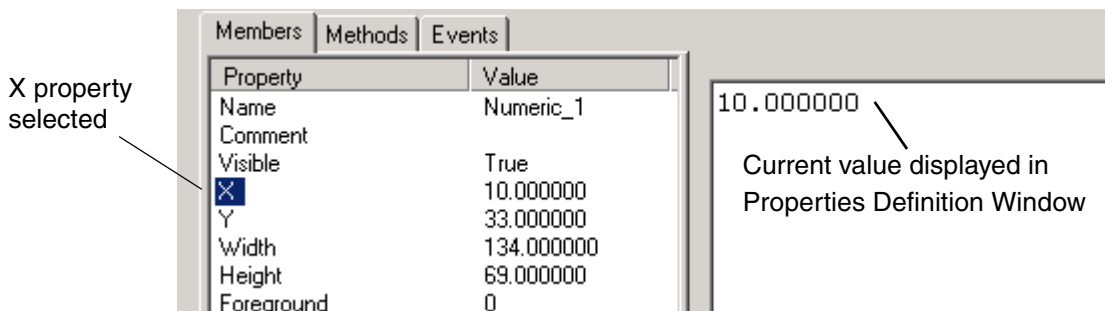

Figure 20. Editing a Property
- Click on the X property. When this property is selected, the current value is displayed in the Properties Definition window, Figure 20.